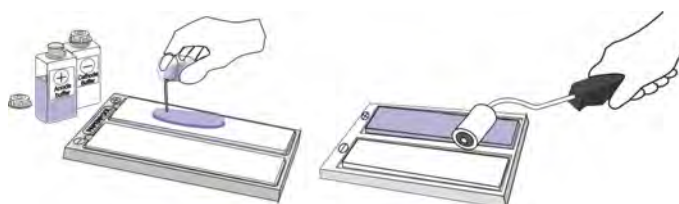

Fig. 3
4. Apply 45 ml of each electrode buffer to the respective electrode wick in the compartments of the PaperPool (fig. 3).